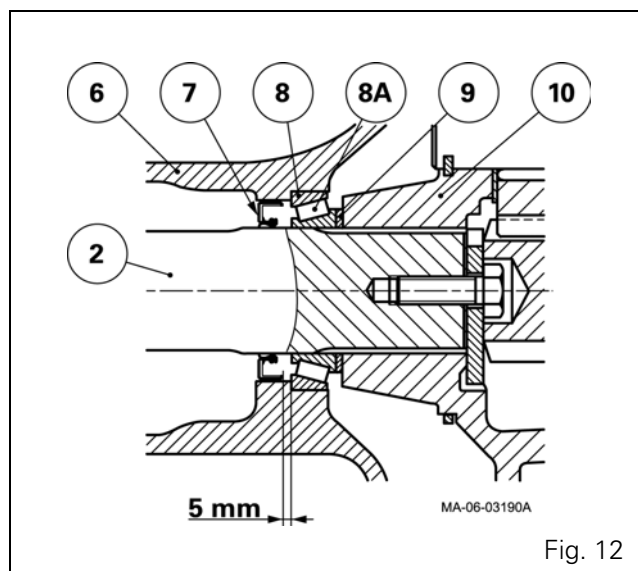
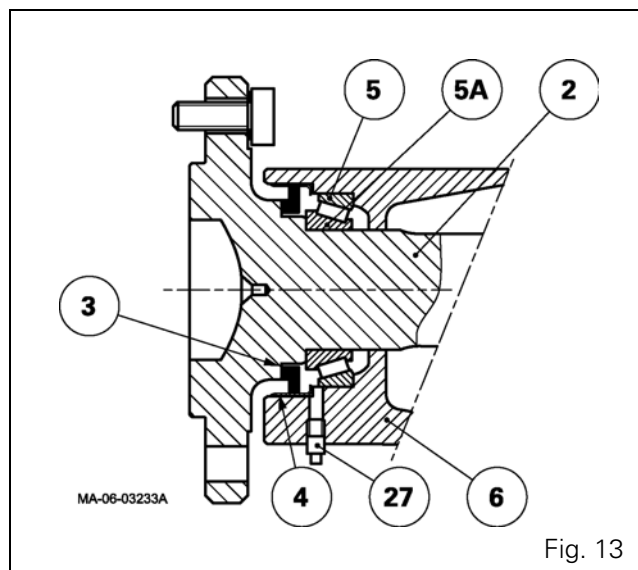

Fig. 12
Fig. 13
- with shaft replacement (2):** position the seal 5 mm from the shoulder of the cup (8) (Fig. 12).
68. Lubricate the cups (8) (5) and fit them home against the shoulder.
69. Fit the cage (4) into the base of the shoulder (Fig. 13).
NOTE: Follow the assembly order of the seal (Fig. 13).
75. Refit the cone (8A), washer (9) and planet carrier (10).
77. Replace plug (27) with a grease nipple. Partially fill the trumpet cavity between the cone (5A) and the seal (3) with BP Agricharge grease or equivalent. Take off the grease nipple and tighten the plug again (Fig. 13).